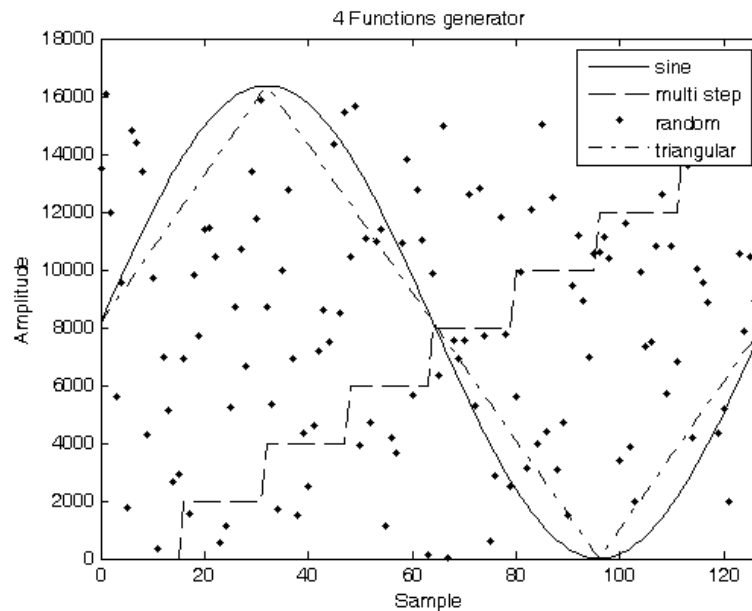

Fig. 1: Plot of 4 different functions.
- Complete your M-file so that the required 4 functions, y_0, \dots, y_4 , are plotted as shown in Fig. 1. Note that the output range is $[0, 2^{14}-1]$ unsigned. Hint: For the triangular function use 3 sections: 32 values going up, 64 down, 32 up. For each section use counters like $[0:31, \dots]$. Then scale the amplitude to full range, i.e., 14 bits.